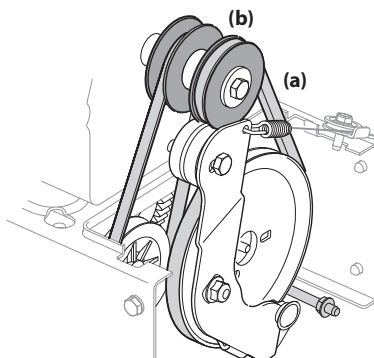

Figure 4-18
- Slip the front auger belt (a) off of the engine pulley (b), pushing it forward and rolling it off of the engine pulley (b). See Figure 4-18.